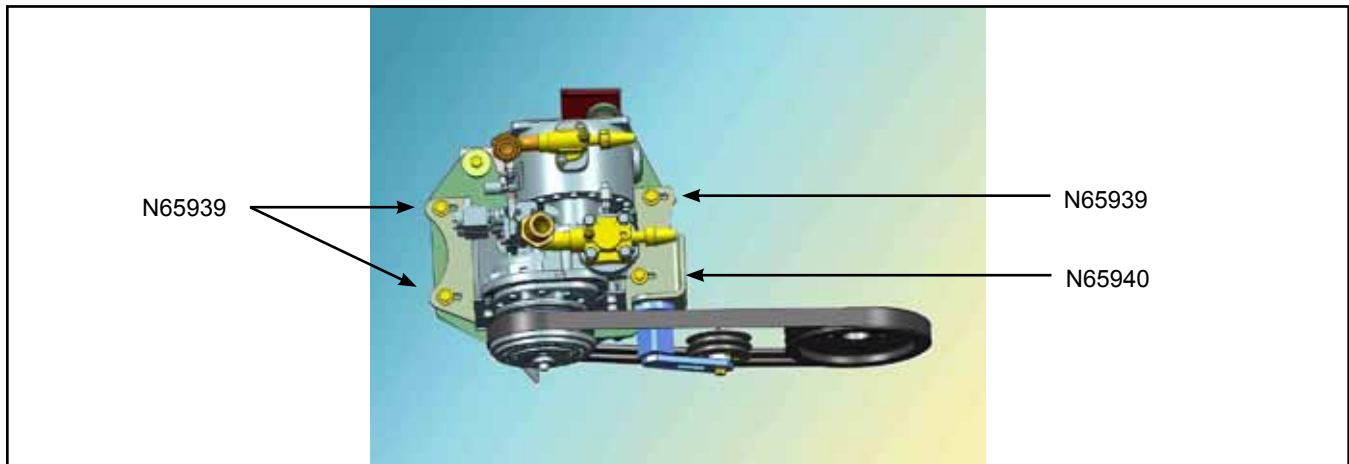

Figure 3 - Bolt Locations
1.5. Install one N69540 bolt with Nord lock washers. See Figure 3 for the location.
1.6. Install three N69539 bolts with Nord lock washers for each bolt. See Figure 3.